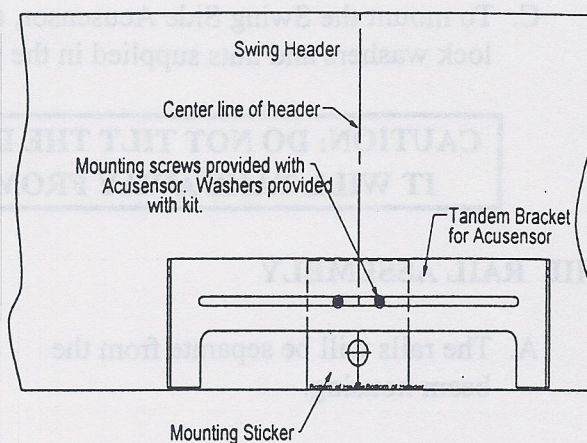

Figure 4
3. Mount the tandem bracket to the header (See Figure 4) through the slot on the bracket. Screws are provided in the Acusensor, and two washers are provided in the mounting kit. *Note: Do not overtighten the screws because later in the instructions the bracket and Acusensor will be adjusted left and right for pattern location.*